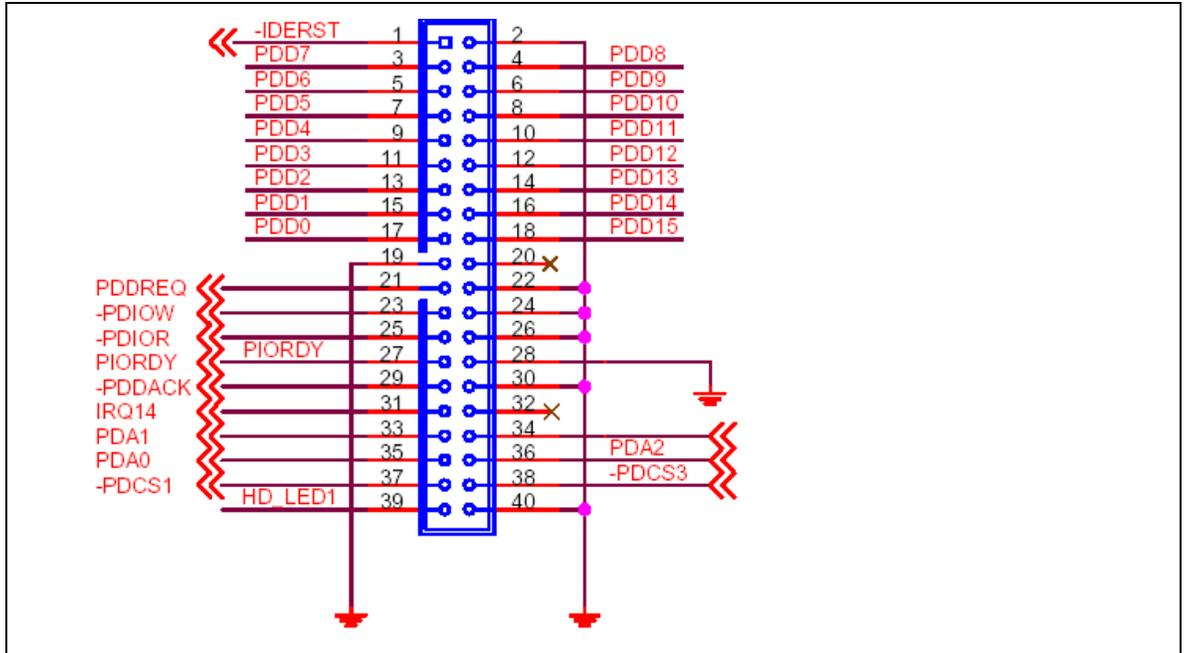

Figure 3-11: Primary IDE Device Connector Location
- CN Location:** See Figure 3-11